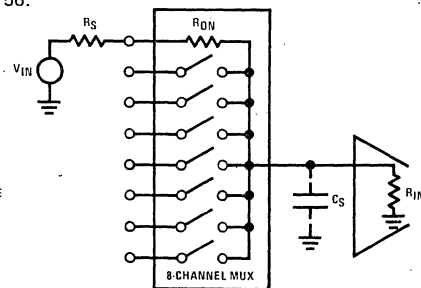

FIGURE 6. 8-Channel MUX
1. Multiplexer's Influence on System Accuracy. (Figure 6).
- a. The error, (E), caused by the finite "ON" resistance, R_{ON} , of the multiplexing switches is given by:
C_S (Figure 6): MUX output capacitance + following stage input capacitance + any stray capacitance at this node.